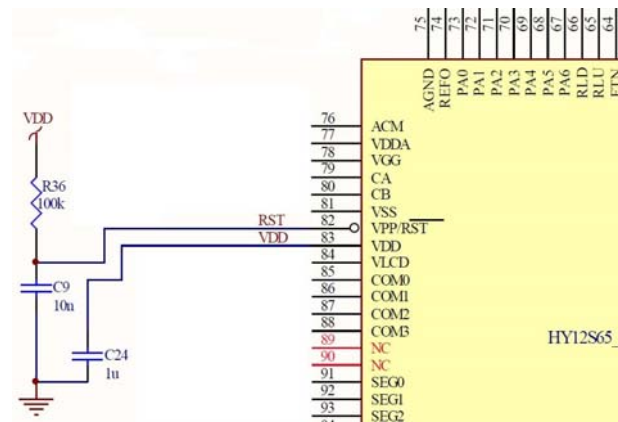

Figure 5
- ◆ RST Circuit : Please refer to Figure 5 in below.